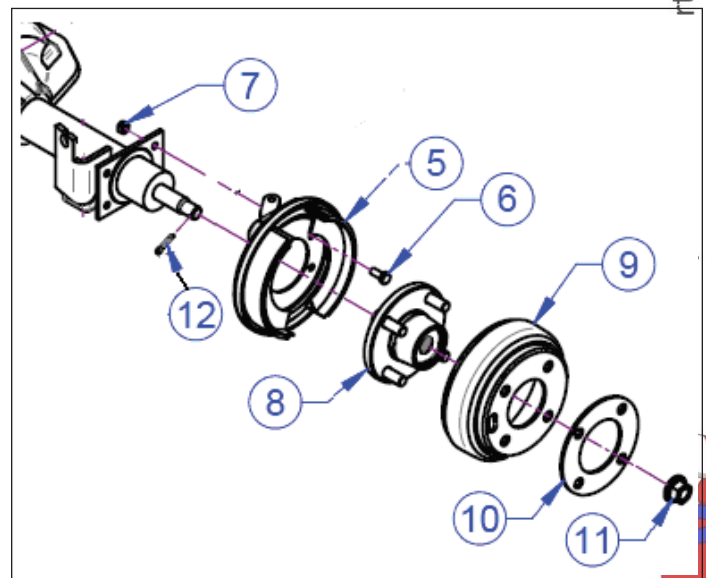

Figure 5-5. Rear Brake Assembly
- See Figure 5-5. Remove cotter pin (12) at axle nut (11). Remove axle nut (11), spacer (10) and brake drum (9).
- See Figure 5-5. Install brake drum (9), spacer (10) and axle nut (11). Tighten axle nut to a minimum 65 ft. lbs. (23 Nm) Install new cotter pin (12).
2. See Figure 5-5. Remove cotter pin (12) at axle nut (11). Remove axle nut (11), spacer (10) and brake drum (9).